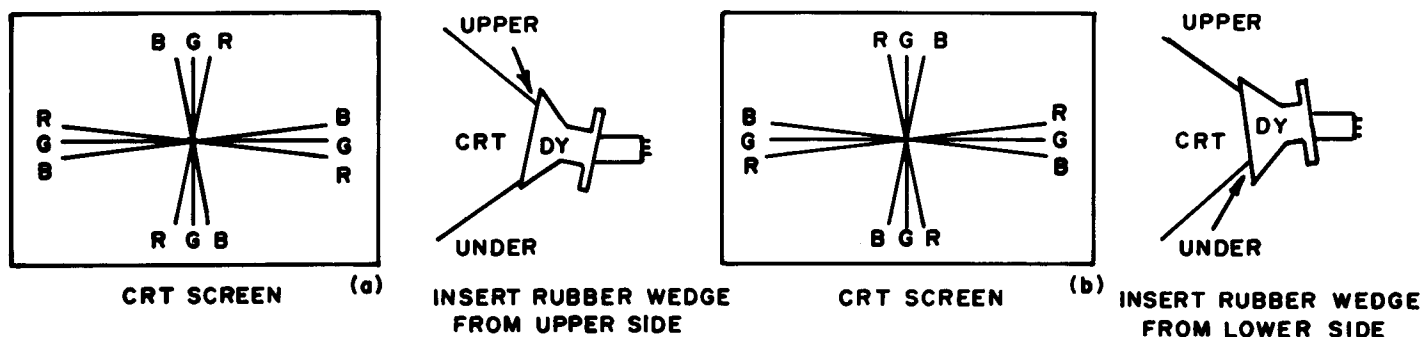

FIGURE 9
## 4.0 PRECISE ADJUSTMENT OF DYNAMIC CONVERGENCE (See Fig. 9 and 10)
- 4.2 Insert the temporary wedge and fix Deflection Yoke so as to obtain the best circumference convergence (See Fig. 9 and 10)
- 1) Tilting the angle of the yoke up and down adjusts the crossover of both vertical and horizontal red and blue lines. See Fig. 9 (a) and (b).